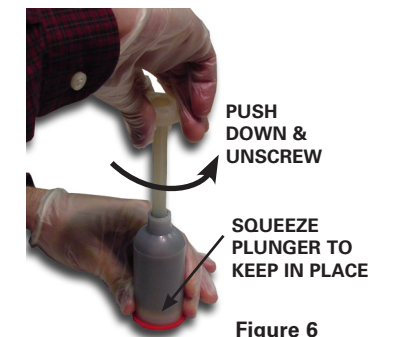

Figure 6
- At the last stroke, push the mixing rod all the way in to the bottom (red side), grasp the cartridge firmly at the bottom to hold plunger in place, and immediately unscrew the mixing rod and remove carefully. See Figure 6.